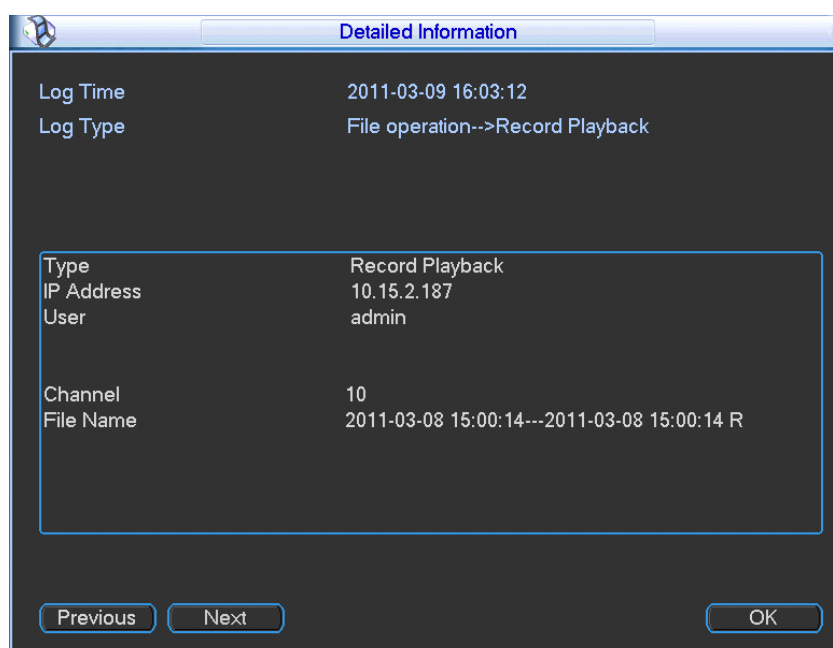

Figure 3-15
- Details: Click the Details button or double click the log item, you can view the detailed information. See Figure 3-15. Here you can use rolling bar to view information, or you can use Page up/Page down to view other log information.